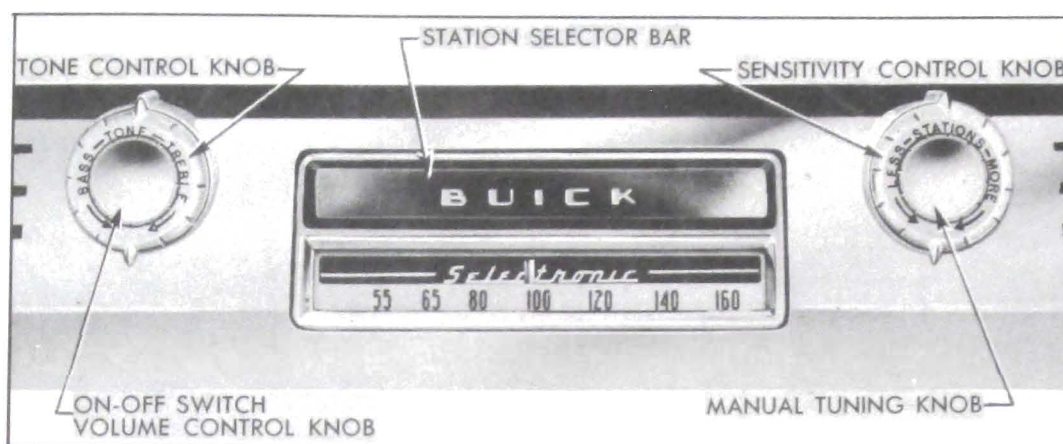

Fig. 11-6—Receiver Controls—Selectronic Radio
Clockwise rotation of the switch knob, to left of dial, turns the radio on, and further rotation increases the volume. Rotation clockwise of the tone control knob, behind the switch knob, to extreme "treble" position gives the full tone range which will reproduce speech very clearly and distinctly. Rotation counterclockwise toward "bass" diminishes brilliance and accentuates low notes. See figure 11-6.
With the radio turned on, selective tuning of available stations is accomplished by depressing either the selector bar above the dial (fig. 11-6), or the foot control switch on toe panel to left of the brake pedal.
The number of stations on which the tuner will stop in selective tuning can be regulated by manual setting of the sensitivity control knob, which is located behind the manual tuning knob to right of the dial. See figure 11-6. This is a step control having four positions. This control is in the circuit only while the tuner is seeking and does not affect the "on station" sensitivity of the receiver.
The manual tuning knob is to right of the dial. See figure 11-6. On the *Sonomatic* radio, this knob may be used to tune in stations other than those for which the push buttons are set; it is also used when tuning to set the buttons for selected stations. On the *Selectronic* radio, the tuning knob may be used to tune in stations that are too weak to stop the electronic tuning mechanism.
5. Install tone control knob, felt washer, and volume control knob on shaft to *left* of the dial. Install dummy knob, felt washer, and tuning control knob on shaft to *right* of the dial. See figure 11-6: